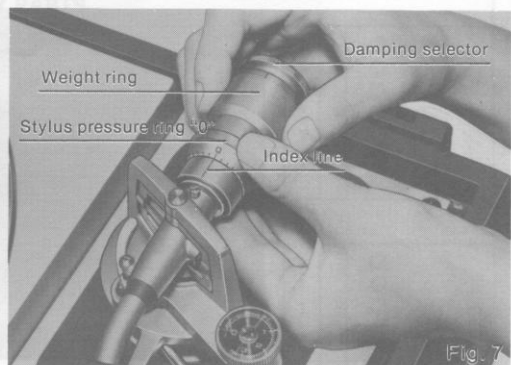

Fig. 7
4. As shown in the figure, hold the weight ring with a finger so that it does not move, and turn only the stylus pressure ring so that the "0" indication of the ring is aligned with the index mark on the weight (Fig. 7).